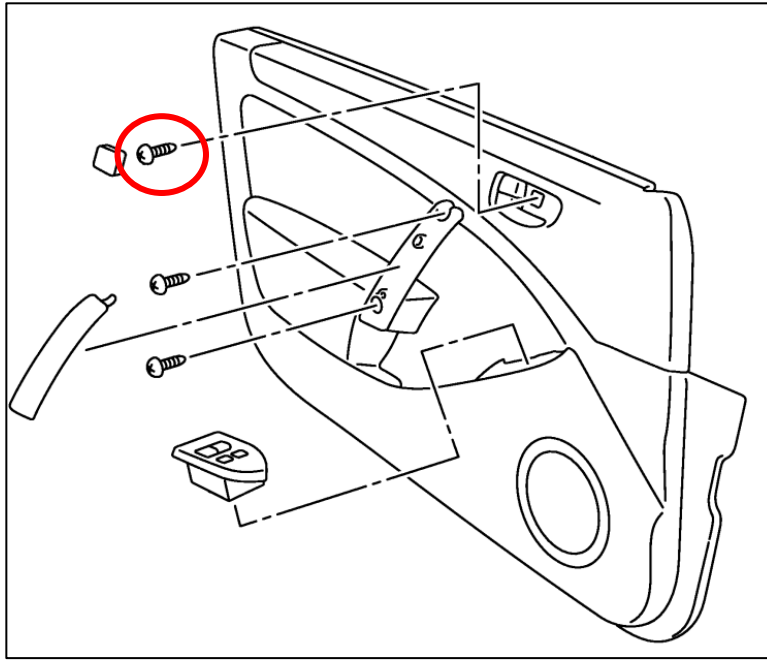

Figure 11
4. Remove the (1) one 10mm Bolt hidden behind the Trim Piece that was just removed. *Figure 11.*